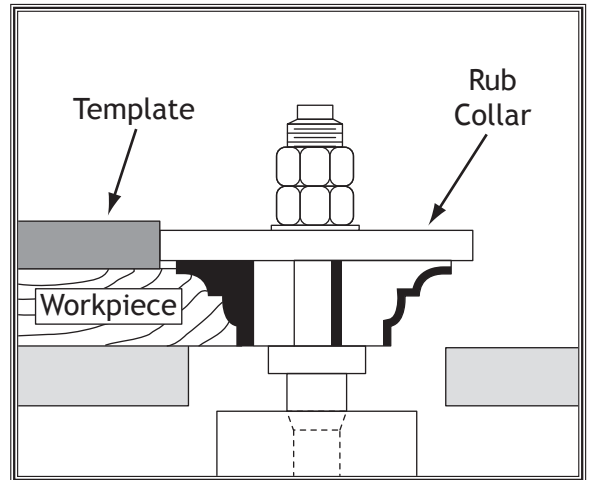

Figure 27. Using a template and a rub collar for free-hand routing.
6. Install a router bit with a rub collar as directed by the router manufacturer's instructions, then raise it to the desired height (see **Figure 27**).